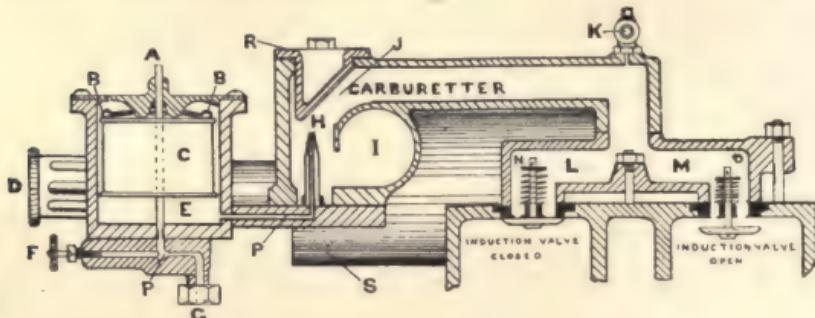

Fig. 11.—The Daimler Carburetter
(3) *The Spray Carburetter.*—The carburetter fitted to the Daimler two-cylinder engine is a good representative of this class. It is depicted in fig. 11. The general principle is as follows : The petrol enters the float chamber E through a pipe G. It is then drawn by the suction of the engine along a circular passage, and through the jet H, and impinges against the sloping sides of the carburetter. At the same time air is drawn through the air cylinder D and into the jet chamber through